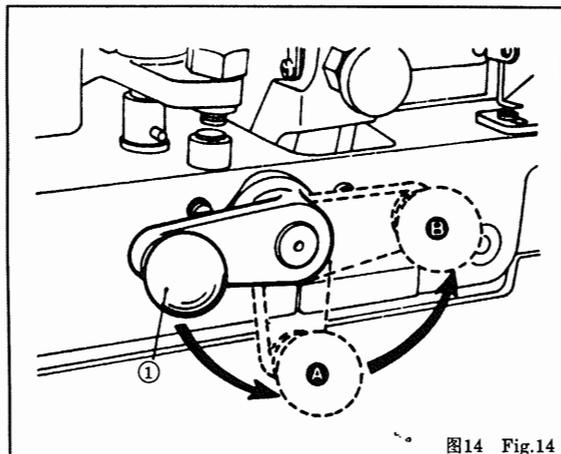

图14 Fig.14
**12. 低速运转和紧急停车** 图14
**12. REDUCTION OF SEWING SPEED AND EMERGENCY STOP** Fig.14